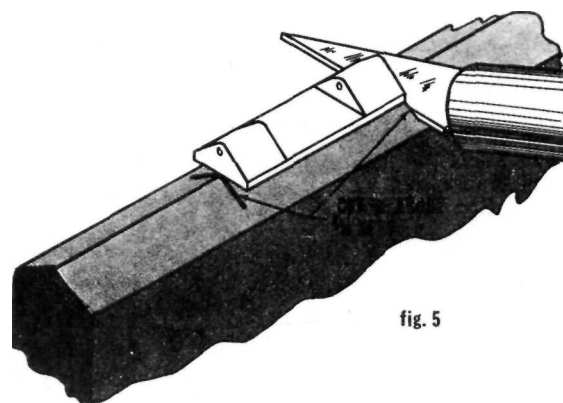

fig. 5
Step 4. Use your knife again and mark the ends of the hinge onto the edge, cutting in about 1/16". (Fig. 5)